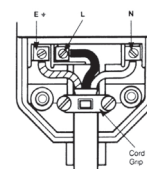

Fig 2.
4. It is important to connect the correct coloured wire to the appropriate terminal as shown in Figure 2 and ensure that all terminal screws are securely tightened.
5. Ensure that the cable sheath is securely clamped using the cord grip as shown in Figure 2.